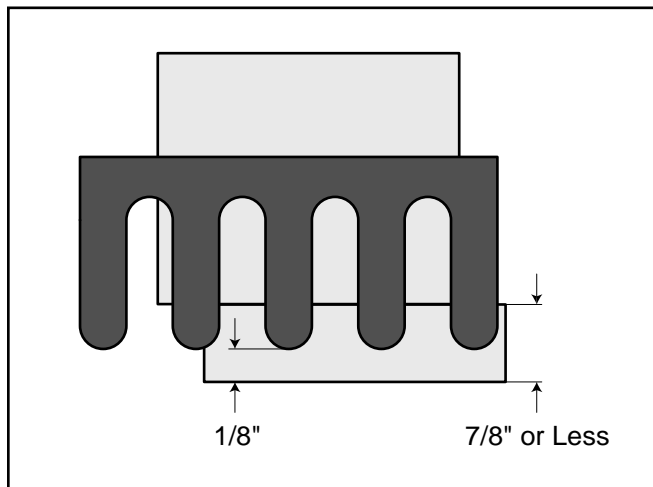

Figure 12. Correct template adjustment for stock $\frac{7}{8}$ " thick and less.
2. For side pieces that are $\frac{7}{8}$ " thick and less, slide the template so the front edge of the template fingers are $\frac{1}{8}$ " back from the top edge of the vertical piece. See **Figure 12**.